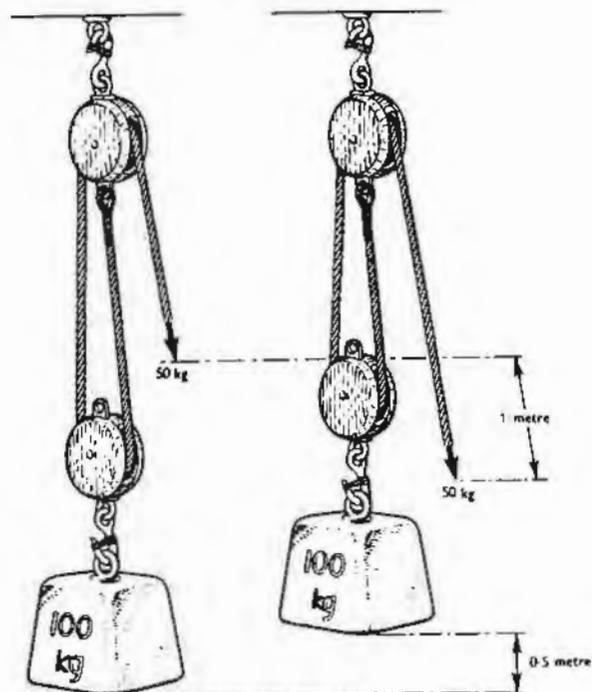

FIG. 8-7. Mechanical advantage and velocity ratio of a tackle
The amount by which the pull on the hauling part is multiplied by the tackle is called its mechanical advantage (MA) and, if friction is disregarded, this is equal to the number of parts of the fall at the *moving* block. In fig. 8-7, for example, there are two parts at the moving block, therefore the mechanical advantage is two; in other words, a pull on the hauling part of 50 kg would, if friction were disregarded, hold a weight of 100 kg.
Mechanical advantage is gained only at the expense of the speed of working. In fig. 8-7, for example, the weight will be raised only half a metre for every metre of movement of the hauling part. The ratio between the distance moved by the hauling part and that moved by the moving block is known as the velocity ratio (VR) and is always equal to the number of parts of the fall at the *moving* block.